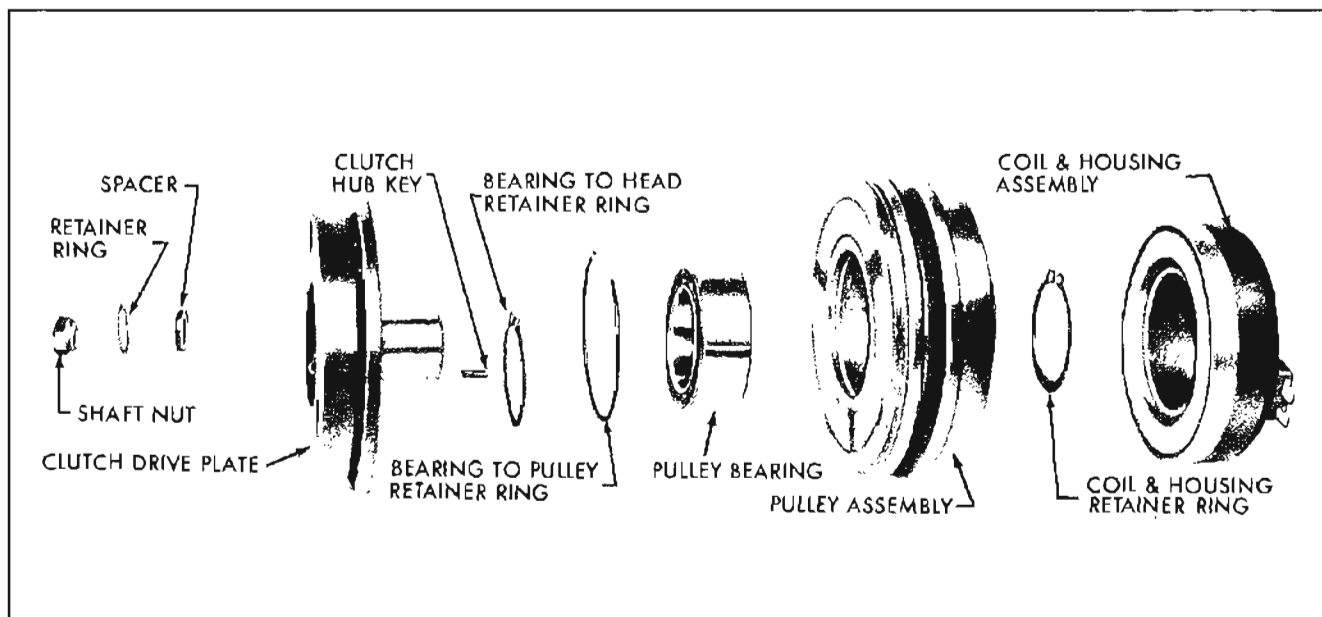

Figure 11-36—Magnetic Clutch Assembly
**12. Magnetic Clutch and Pulley Assembly**—The magnetic clutch and pulley assembly (see Figure 11-36) together transmit power from the engine crankshaft to the compressor. The magnetic clutch is actuated when the air conditioning clutch compressor switch and the FAN switch located on the air conditioning control assembly are closed. When the switches are closed (air lever in A/C position and fan lever in low-medium or HI positions) the coil sets up a magnetic flux and attracts the armature plate (movable element of the clutch drive plate). The armature plate portion of the clutch drive plate moves forward and contacts the friction surface of the pulley assembly, thereby mechanically linking the compressor to the